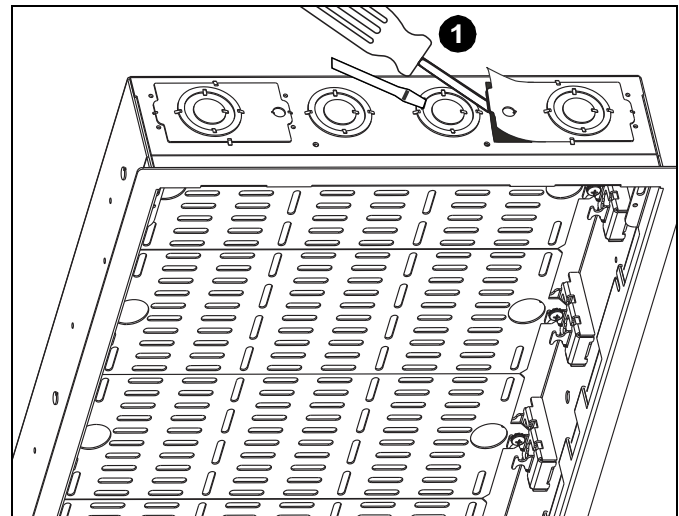

Figure 6
1. Remove knock-outs as determined in Step 4 of **Locating PAC527 section.** (See Figure 6)